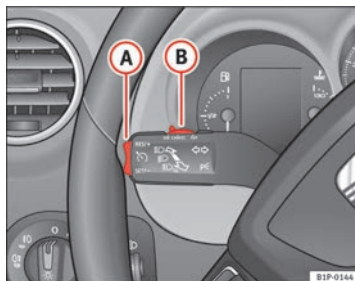

Fig. 131 Turn signal and main beam headlight lever: switch and rocker switch for the cruise control
- Push the switch $\Rightarrow$ fig. 131 **(B)** to the left to **ON**.